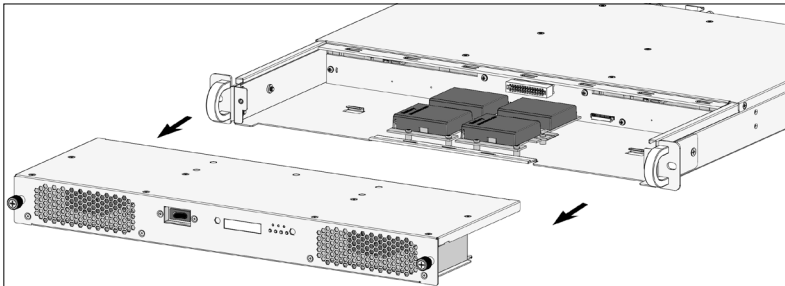

Figure B-5, Removing the front cover from the enclosure
2. Remove the mounting screw and separate the front cover from the enclosure, as shown in Figure B-5.